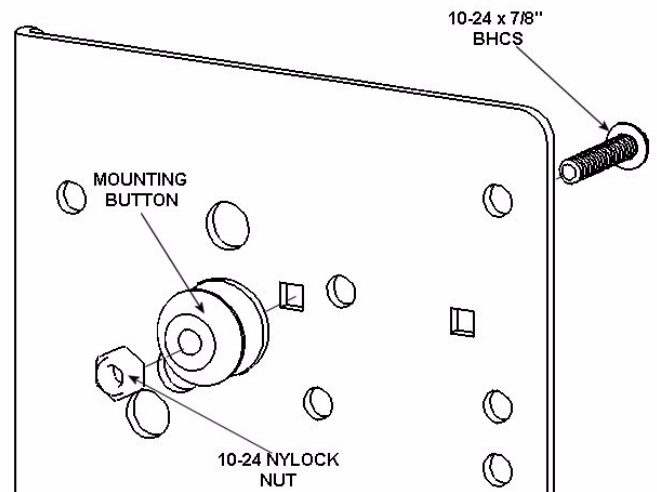
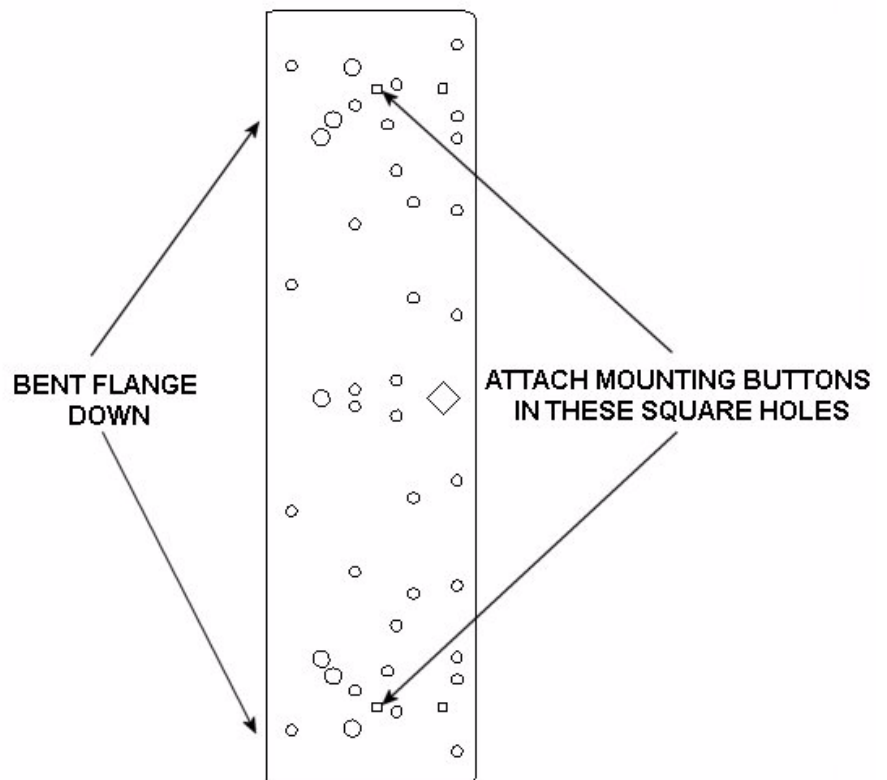

Figure 2. Bracket with Bent Lip Down
Figure 3. Button Installation
Each interface bracket has square holes for attaching mounting buttons (See Figure 2). These holes are arranged in a 24" vertical spacing pattern. When the proper hole pattern is used, the mounting buttons will form a 24" X 24" pattern when installed on your display. The following steps will explain how to attach the mounting buttons.
1. Lay the interface brackets out with the bent lip of each interface bracket down (see Figure 2).
3. Using the mounting buttons and hardware in the parts bag labeled A, attach the mounting buttons in the inside square holes of each interface bracket (see Figure 2 and Figure 3).